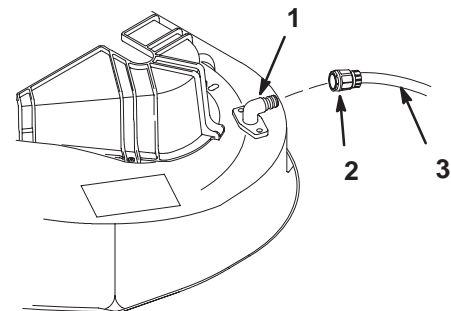

Figure 31
2. Attach a hose coupling to the end of the mower washout fitting and turn the water on high (Fig. 31).